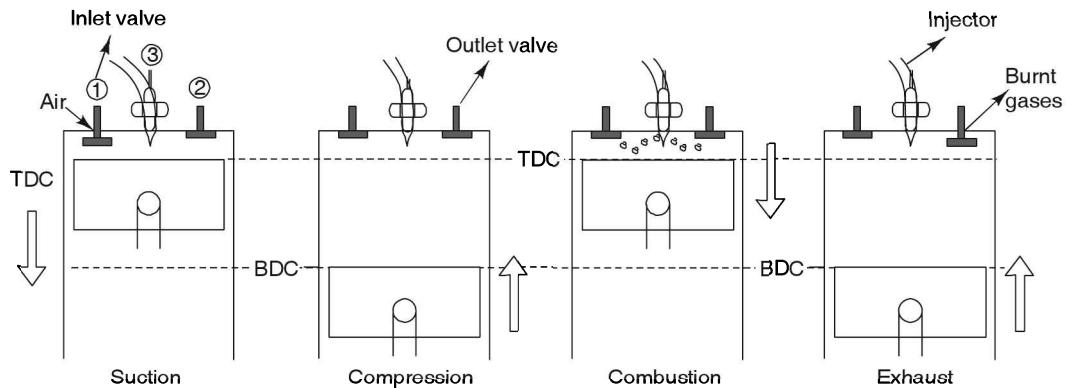

FIGURE 6.14 Four strokes of CI engine.
Compression ignition (CI): Engine has a fuel injection pump to inject fuel at high pressure through the injector in the cylinder. It has no spark plug or carburettor as combustion takes place by compressing air (no air-fuel mixture) at high pressure and then injecting diesel through the injector at very high pressure so that spontaneous combustion takes place. CI engine works on the diesel cycle. The four strokes of a CI engine (Figures 6.14 and 6.15) are as follows: